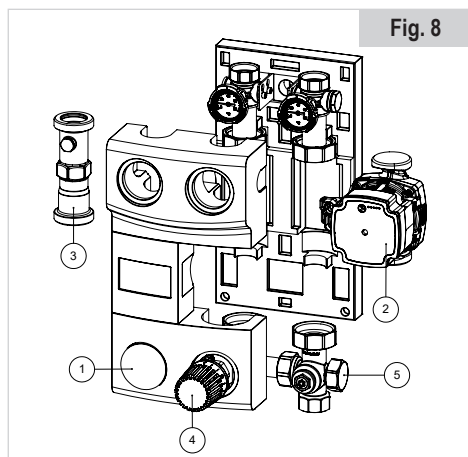

Fig. 8
- Remove the front shells (1), the circulator (2), the connection pipe (3), the thermostatic control (4) and the mixing valve (5) (see **Fig. 8**).